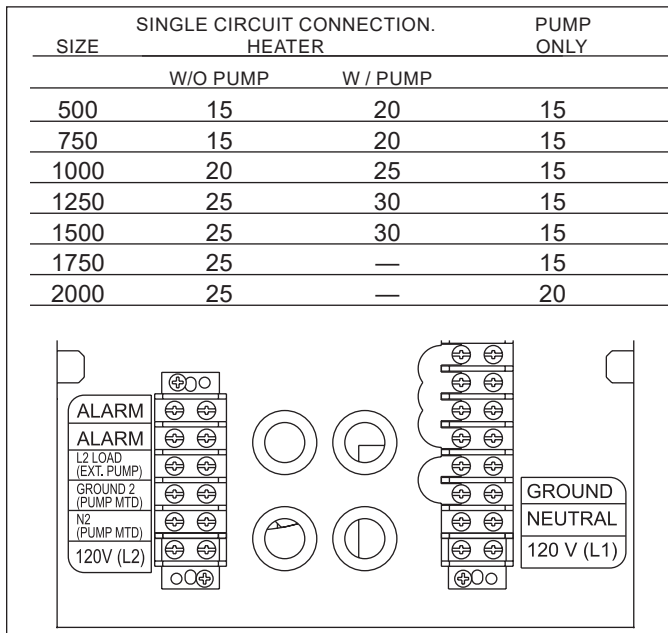

Figure 15. Field Wiring.
Non-pump-mounted heaters require a single 120-volt fused supply. See Figure 15 for over current protection ratings.
Pump-mounted models 1750 and 2000 require two 120-volt fused supplies. See Figure 15 for over current protection ratings.
**Main Power:** The main field wiring connection points are located inside the line voltage connection/field wire area. Single circuit 120-volt units will be field connected at the main terminal block labeled "120V (L1)", "NEUTRAL" and "GROUND". See **Figure 15** for over current protection ratings.
Sizes 1750, 2000 (and those which have been field retrofitted to electrically separate the pump and heater) require two 120-volt circuits. The heater circuit is found on the main terminal block and denoted as "120V (L1)", "NEUTRAL" and "GROUND". The pump circuit is located on terminal block 1 and is denoted as "120V (L2)", "N2 (PUMP MTD)", "GROUND 2 (PUMP MTD)". See **Figure 15** for over current protection ratings.